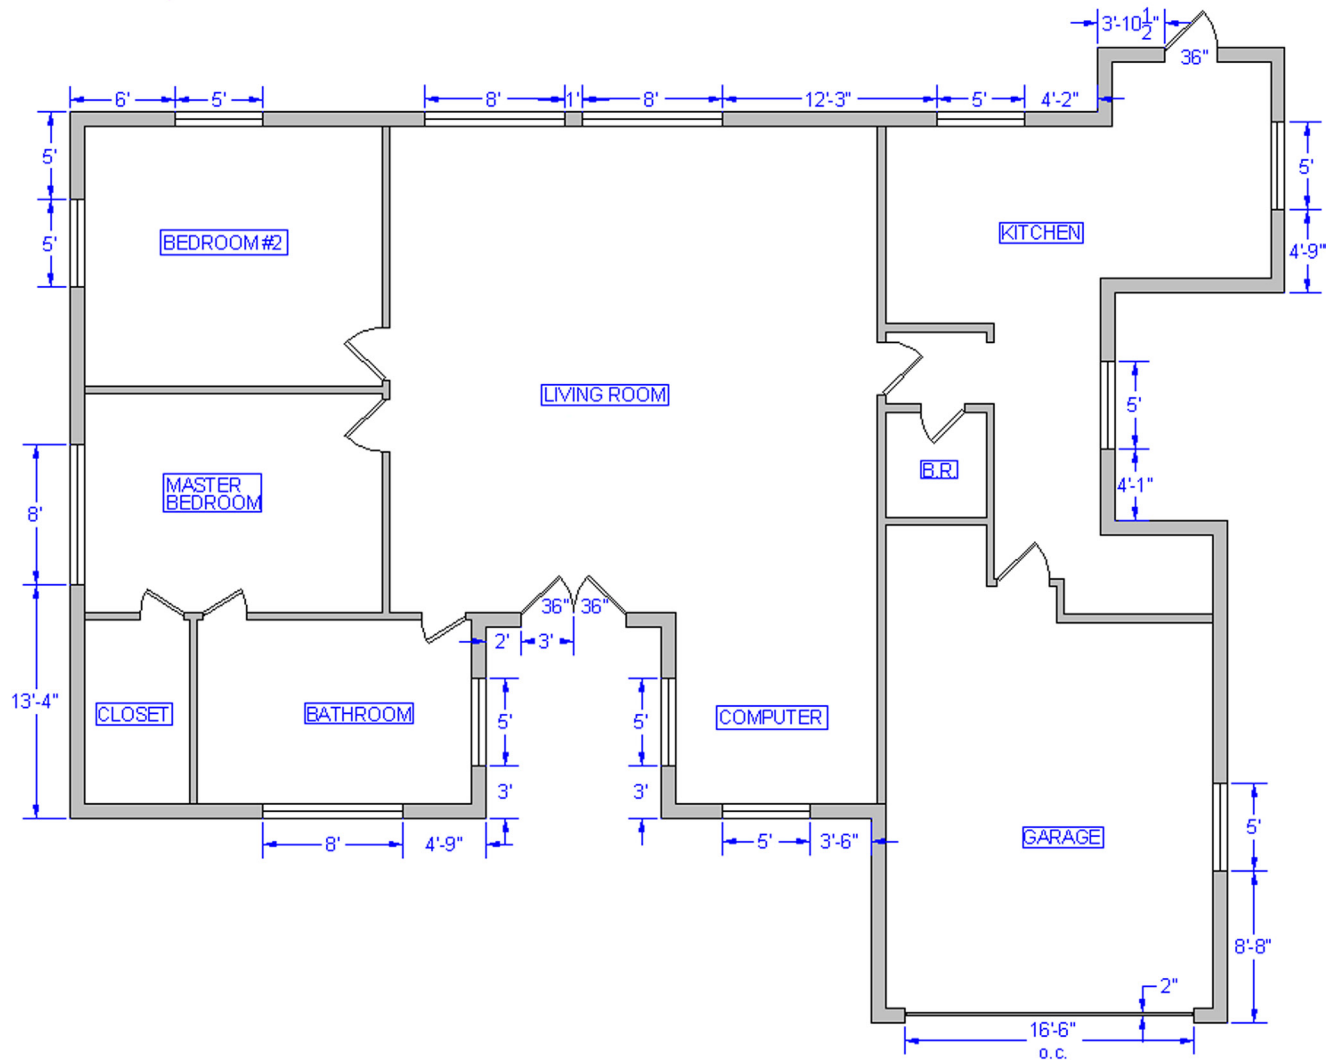

FIGURE 12.11
Step 2. Add in the exterior windows and all doors. Be sure to follow the layering guidelines carefully. Make all windows and doors blocks for convenience. The exterior dimensions are shown in Figure 12.11. Note that the deck and deck hatching is frozen, as it is not relevant to the new material you are adding.